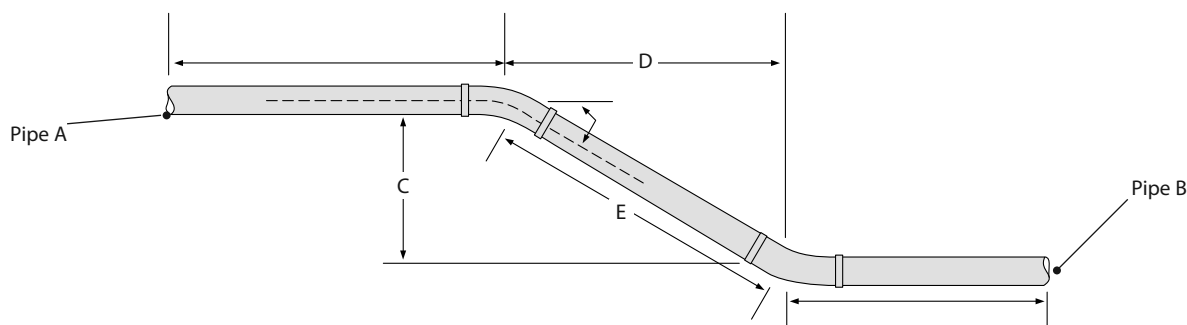

Figure 14-9
Figure 14-9 shows a common pipe offset between parallel runs of pipe. The center-to-center offset (C) is 10 inches, the distance between the centers of pipes A and B. Assume that you're connecting pipes A and B with 45-degree elbows. You need to find the length of pipe required for E. Use Figure 14-10. (The letters refer to the letters on Figure 14-9.) On the line for the 45-degree offset, you'll find the figure 1.4142 in the last column. Multiply distance C (assume 10 inches for this example) by 1.4142. The length of pipe E is 14.14 inches.
You can measure offsets for rigid plastic pipe and fittings the same way as for threaded pipe. Refer back to Figures 14-9 and 14-10.